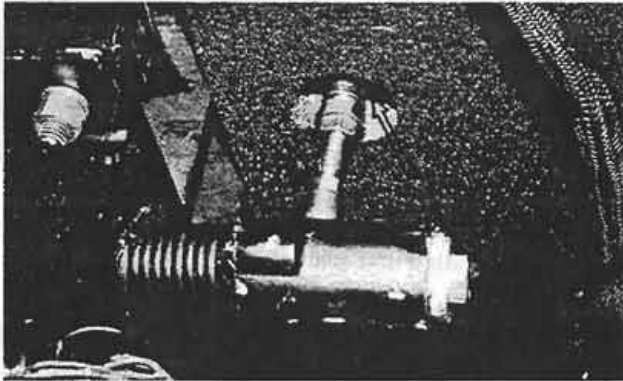

Figure 12:
1. Apply moderate pedal pressure for several minutes to see if the piston seal will leak. If leakage is present it can be observed when the rubber dust boot is loosened from the rear of the cylinder (Fig. 12).